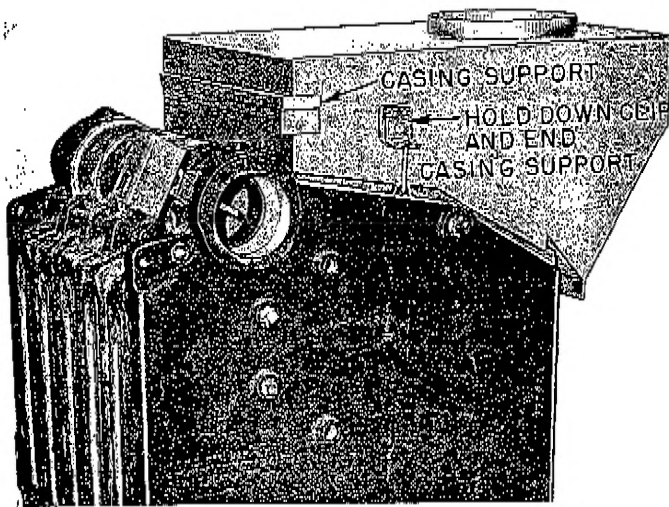

Figure 8 - Hold Down Clip & Jacket Clip
4. Install the hold down clip and the jacket clip. See Figure 8.